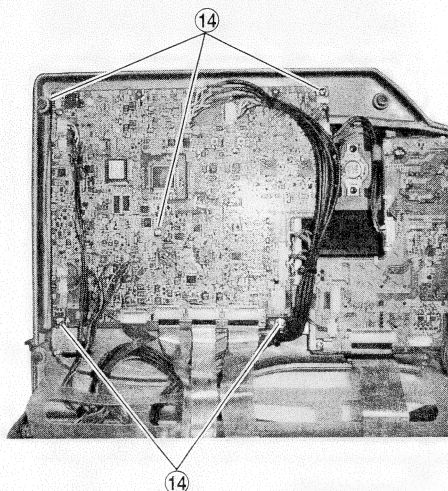

Fig. 1-6-1 (1)
- (3) As shown in the Fig. 1-6-1(2), while the AUDIO & LCD board is standing, the diagnosis is possible.